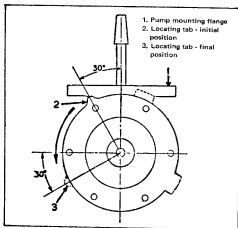

Fig. 2 - Fuel lift pump diaphragm
10. Locate the diaphragm return spring in the diaphragm lower protector washer and insert the diaphragm into the pump body with its locating tab in the 11 o'clock position (see Fig. 2). Press the diaphragm downwards and turn it anti-clockwise through an angle of 90° to engage the slots in the pull rod with the operating link fork.